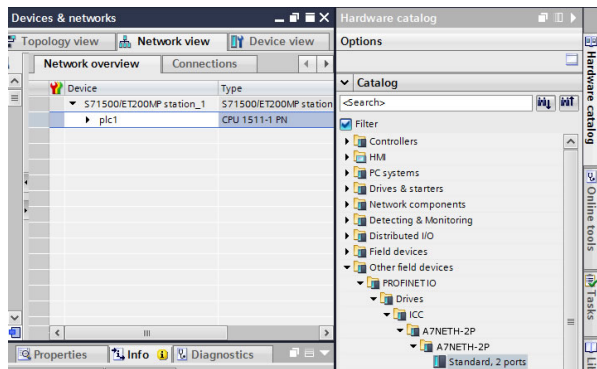

Figure 80: Updated Hardware Catalog
- This will update the **Hardware catalog**. Locate the device in the **Hardware catalog**. In the **Project tree**, double-click on **Device & networks**. Select the **Network view** tab and locate the device in the **Hardware catalog** as shown in Figure 80.